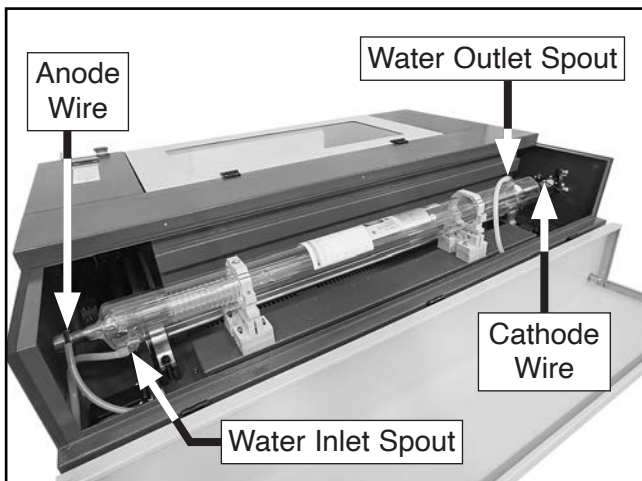

Figure 97. Laser tube water inlet/outlet spouts (G0873 shown).
9. Rotate and center laser tube in saddles so inlet spout is pointed down, and outlet spout is pointed up, as shown in **Figure 97**.